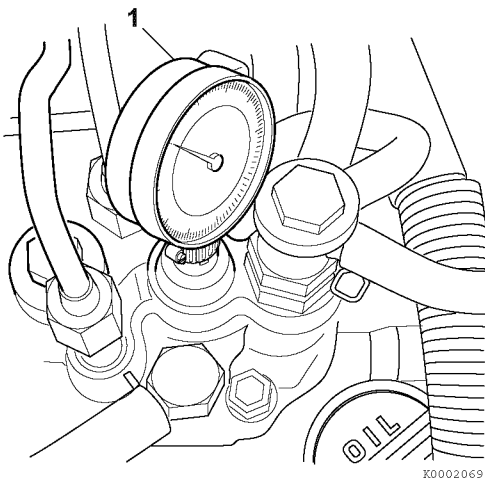

Figure 7-40
3. Note the reading on the dial indicator (1, **Figure 7-40**). If the reading is less than 2.5 mm (0.098 in.), the fuel injection timing is “retarded”. If the dial indicator reading is greater than 2.5 mm (0.098 in.), the fuel injection timing is “advanced.”